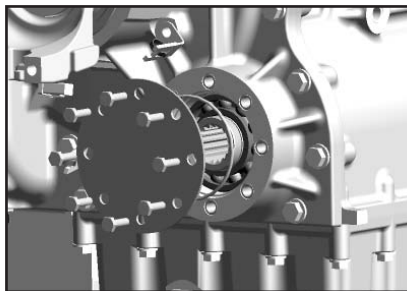

Fig. 2
3. Remove the O-Ring and clean the aperture surface (**Fig. 2**).